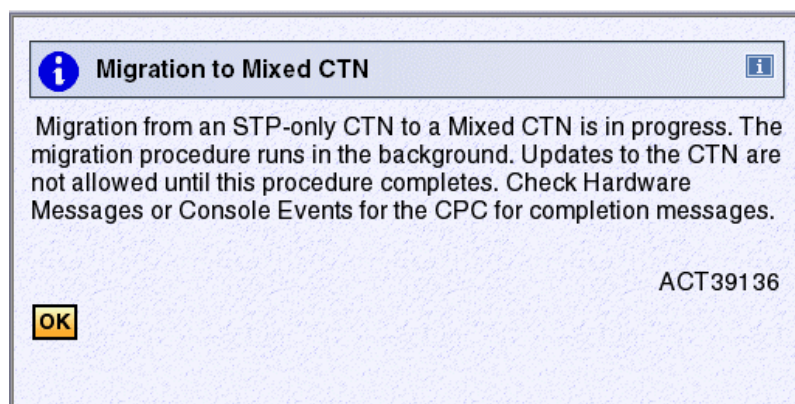

Figure 15-14 Message ACT39136 - Migration to Mixed CTN in progress
- Confirm the migration by clicking **Yes**. This displays the Migration to Mixed CTN, message ACT39136 (Figure 15-14).